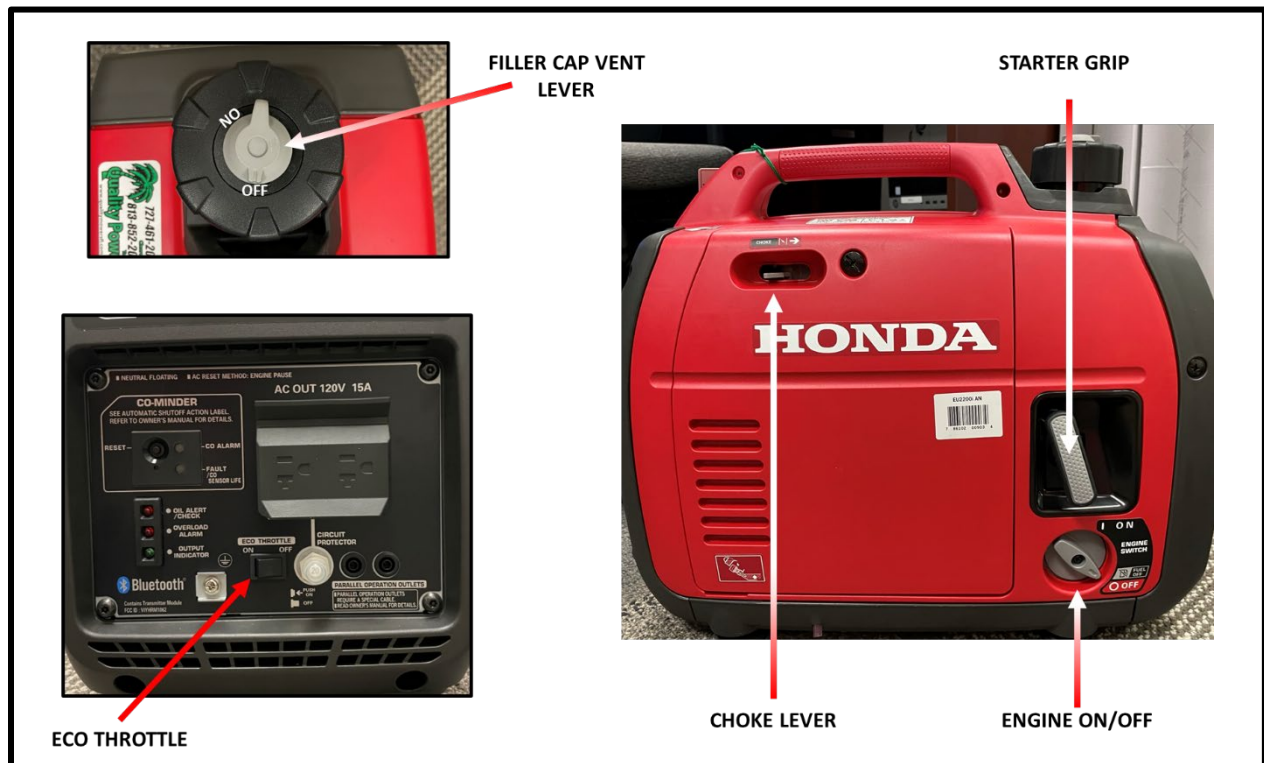

Figure 3. Generator Controls
- Turn the fuel filler cap vent lever to the ON position. Refer to Figure 3 for location of generator controls.